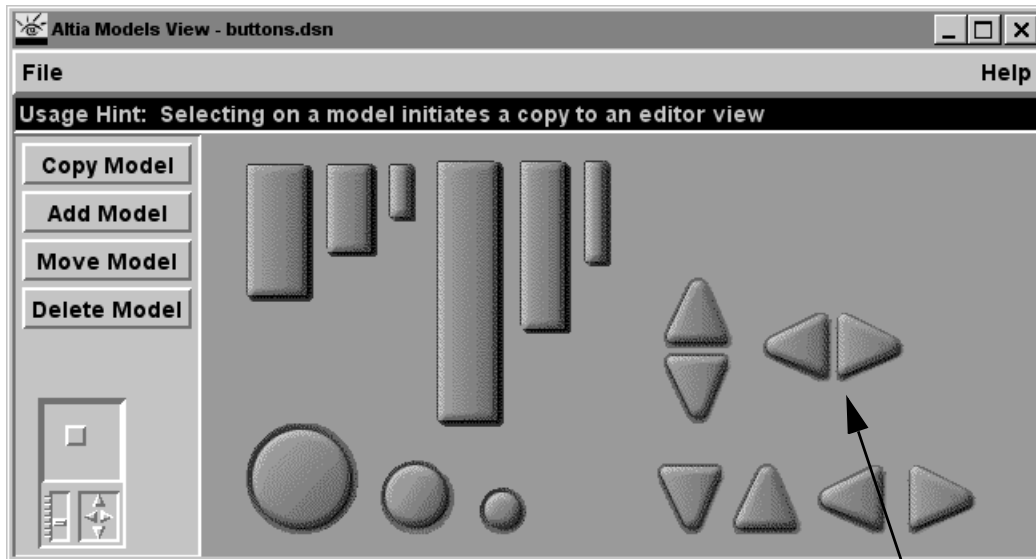

FIGURE 7-26 Library of Buttons
3. Scroll up to find the Inc/Dec buttons indicated in Figure 7-26 and drag them into the Altia drawing area.